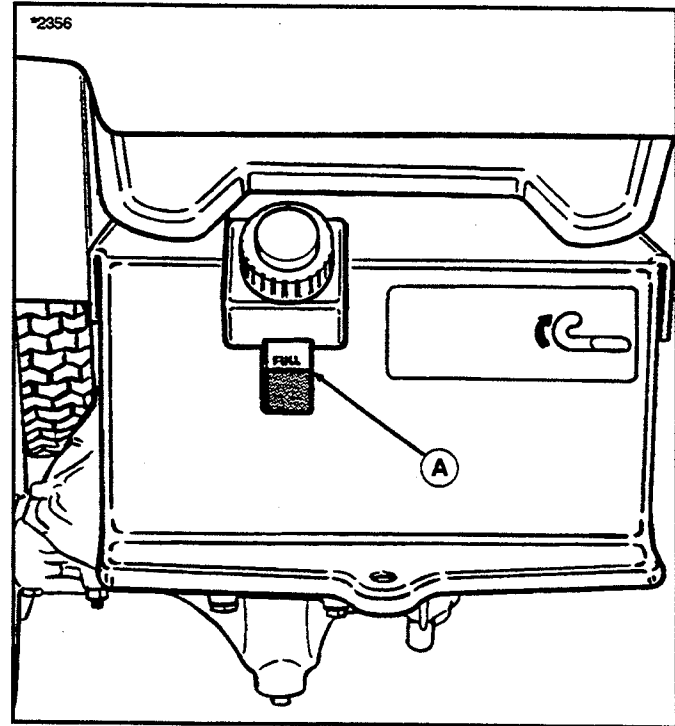

Figure 23. Hydrostatic Reservoir (Early Hydro Model)
1. The fluid level is visible in the reservoir at the rear of tractor (figure 23). The level should be at FULL mark. If not, go to step 2.